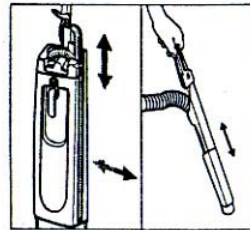

Figure 5
3.4 Working with the suction hose <Figure 5>